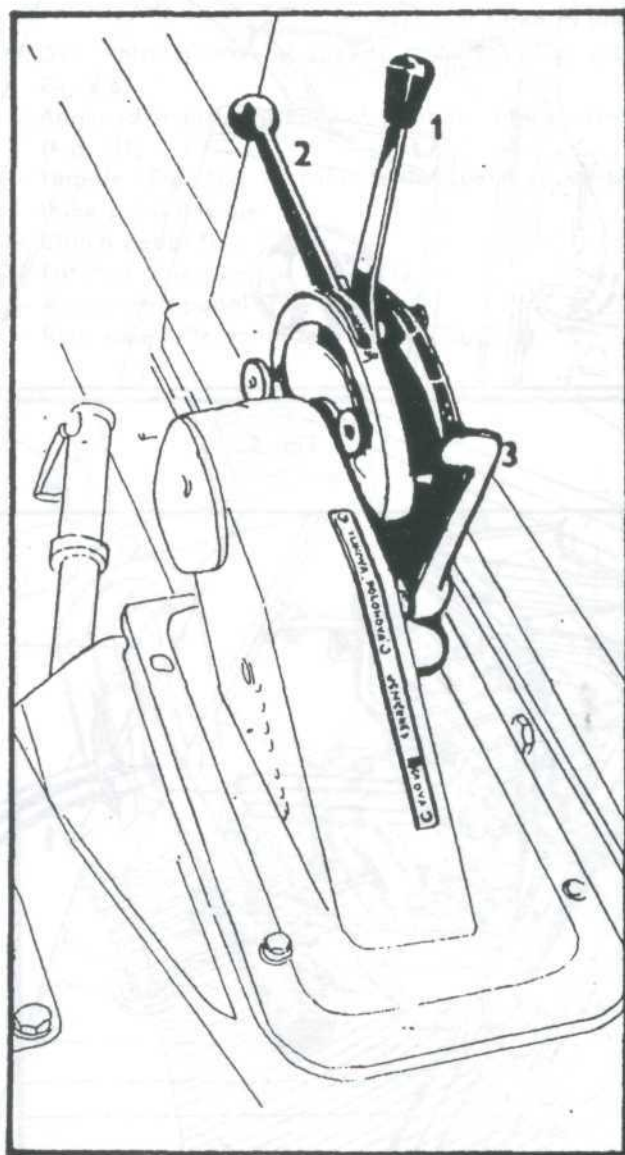

Fig. 7
- Inner hydraulic circuit control lever — square-shaped (Fig. 7/1)
- Outer hydraulic circuit control lever (Fig. 7/2)
- Hydraulic power-lift system selector (Fig. 7/3)